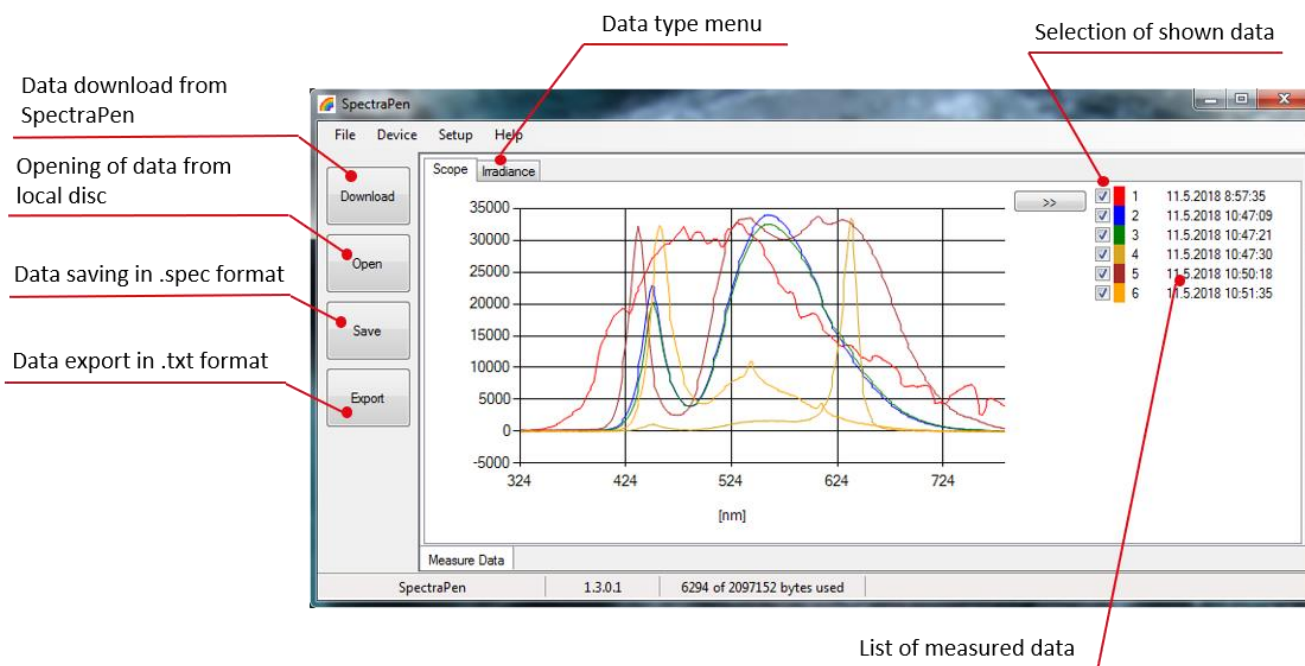

Fig. 29 Scope spectra.
5. Visualization modes: Scope mode window is always displayed as the default. To view irradiance data, go to Irradiance tab (Fig. 29).
6. All data that are downloaded are displayed in the Scope window after download from the SpectraPen. The user can select the set of measurements to be displayed by marking and unmarking the data from the selection list (Fig. 29).